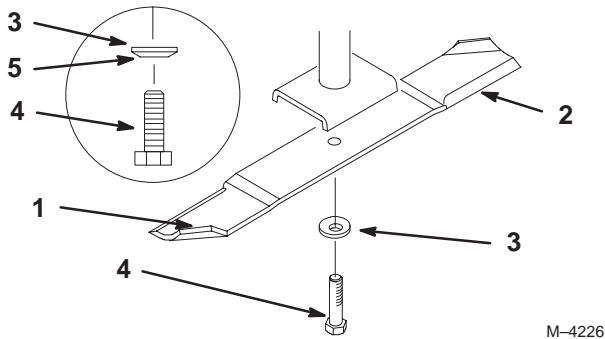

Figure 38
1. Hold the blade end using a rag or thickly-padded glove. Remove the blade bolt, spring disk and blade from the spindle shaft (Fig. 38).
2. Check the balance of the blade by putting it on a blade balancer (Fig. 37). If the blade stays in a horizontal position, the blade is balanced and can be used. If the blade is not balanced, file some metal off the end of the sail area only (Fig. 38). Repeat this procedure until the blade is balanced.
1. Install the blade onto the spindle shaft (Fig. 38).
2. Install the spring disk and blade bolt (Fig. 38). **Torque the blade bolt to 85–110 ft-lb (115–150 N·m).**